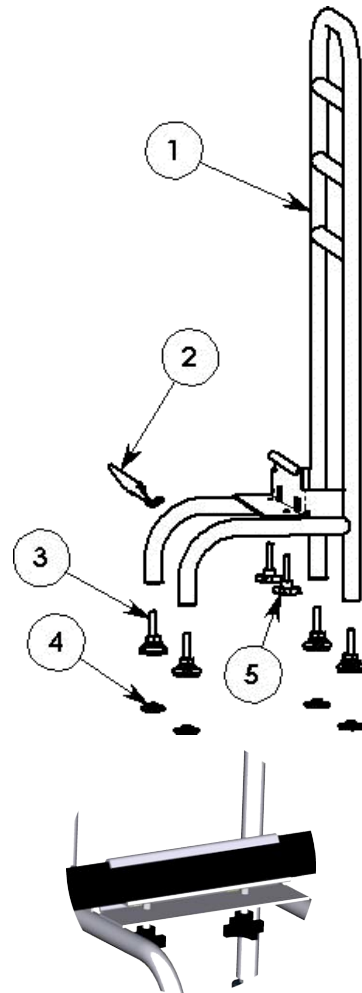

Fig. 3
- 4 Attach the assembled Bedside Valet to the side of the metal bed frame, approximately 24 inches from the headboard. Select a location within a comfortable reach for the person who will be using Bedside Valet. Slip the rolled-over lip on the vertical plate (1) over the bed frame and tighten the clamping knobs (5) to press the bottom clamp (2) against the bottom of the frame. Make certain that the bottom clamp fits over the inner edge of the bed frame and the frame is securely locked in position. Fig. 3